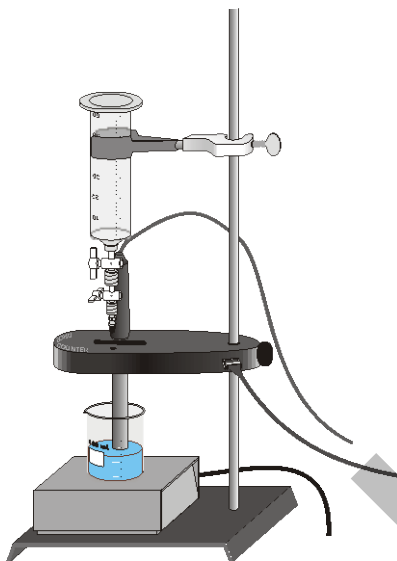

Figure 2
3. Lower the Drop Counter onto a ring stand and clamp it into position (see Figure 2).